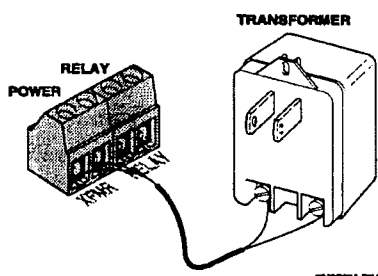

Figure 3. Connecting the Transformer to the Interface
- 2) Connect one end of the wire to the Interface terminal block labeled XFMR and connect the other end to the terminals on the transformer (no polarity), as shown in Figure 3.